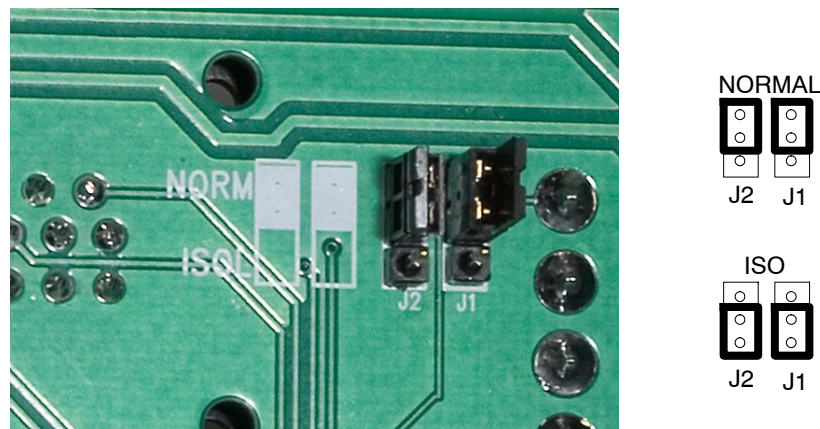

Figure 3-7 Machine Stop Interlock Jumper Settings - Shown Set To NORMAL
See Figure 3-7. To access the Machine Stop Interlock jumpers remove the system controller cover. The jumpers are on the back of the I/O connector circuit board.
- Both jumpers must be set to one of the two positions as shown in Figure 3-7.